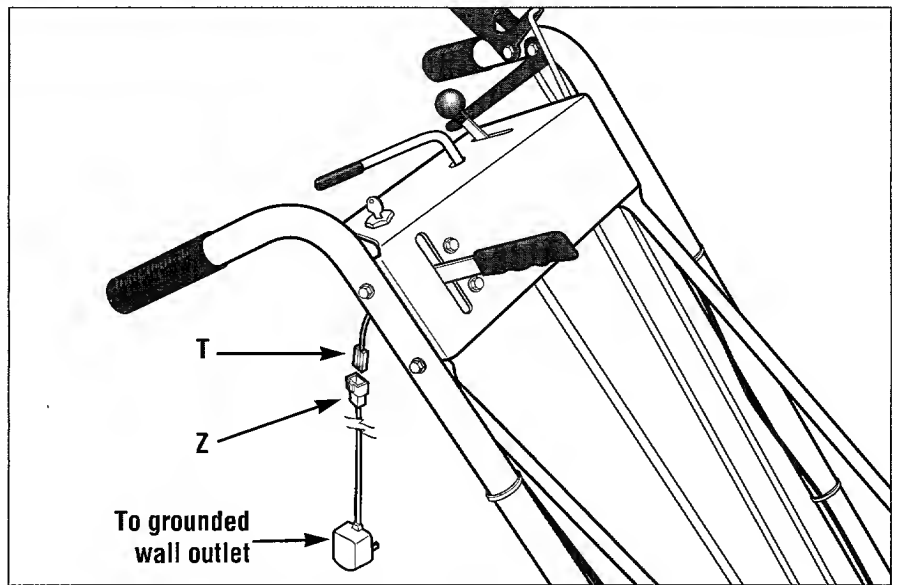

Figure 2-5: Connect battery charger terminal to wire harness terminal.
1. To charge the battery, locate the connector (T, Figure 2-5) that hangs from the wire harness below the handlebar console.
2. Plug the connector on the battery charger (Z, Figure 2-5) into the connector on the wire harness (T).